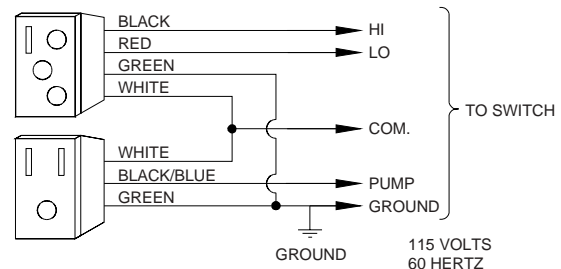

FIG. 4
- **Hook up electrical.** Electrical hook up should be done by a qualified electrician, so that all electrical wiring will conform to your local standards. See Fig. 4 for the wiring diagram. **IMPORTANT:** When a single speed motor is used, do not use the red lead on the receptacle and motor plug wiring. Tape off end of both of the red leads.